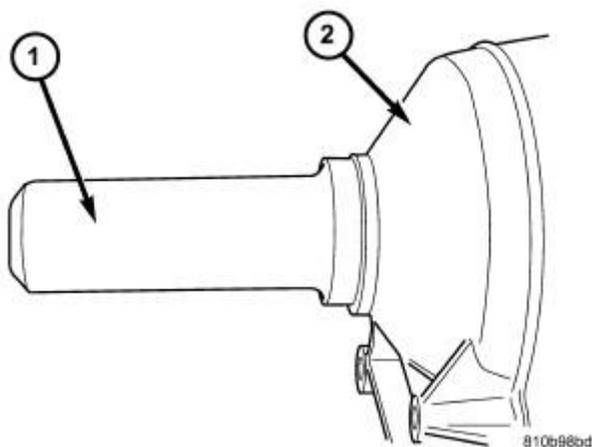

Fig. 187: Installing Output Shaft Seal
2. Use Seal Installer (special tool #8902A, Installer, Seal) (1) to install the seal. Refer to **Fig. 187**.